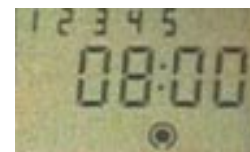

Fig. 5
- Press the Select button until the  symbol is shown (see fig. 5).